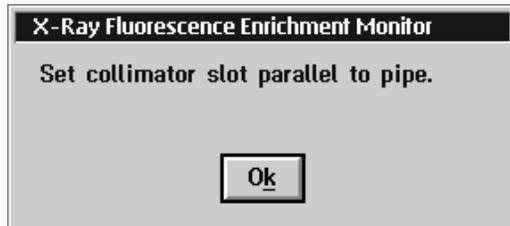

Figure 25. Message box reminding user that the collimator must be in the parallel position for this measurement.
4. Make sure the collimator slot is set parallel to the pipe. The user is reminded of this step by the XRF software as shown in Figure 25. Select “OK” when the collimator has been set.